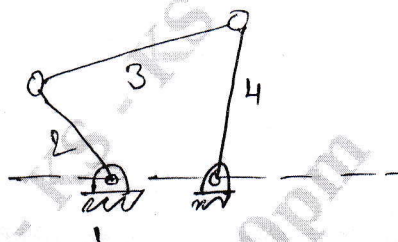

Fig Q5
- 5 Develop an equation for the relationship between the Angular velocities of the input crank and output crank of 4 bar linkage shown in Fig Q5. Using loop closure equation.